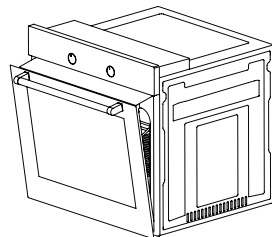

Figure 27
2.Locate the two mounting tabs on the heat shield into the two slots under the control panel, then secure in place between oven and inner door by gently closing the door. (Figure 27)